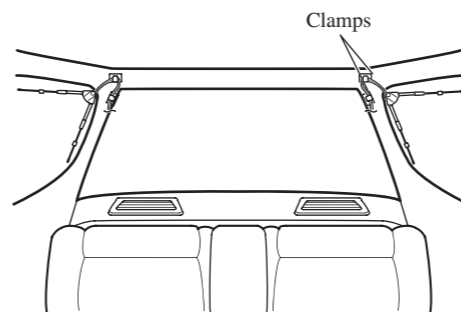
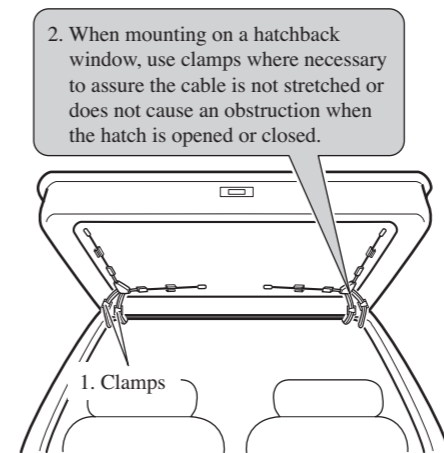
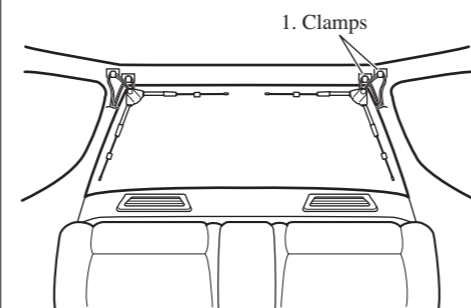

Fig. 5
Fig. 6
Fig. 4
- To assure optimum reception, it is recommended you mount the TV antenna on a rear (hatchback) windows pointing down as shown in the Fig. 4, Fig. 5 and Fig. 6.
■ Example 1: Mounting on a rear window (Fig. 4)
■ Example 2: Mounting on a rear side window (Fig. 5)
■ Example 3: Mounting on a hatchback window (Fig. 6)